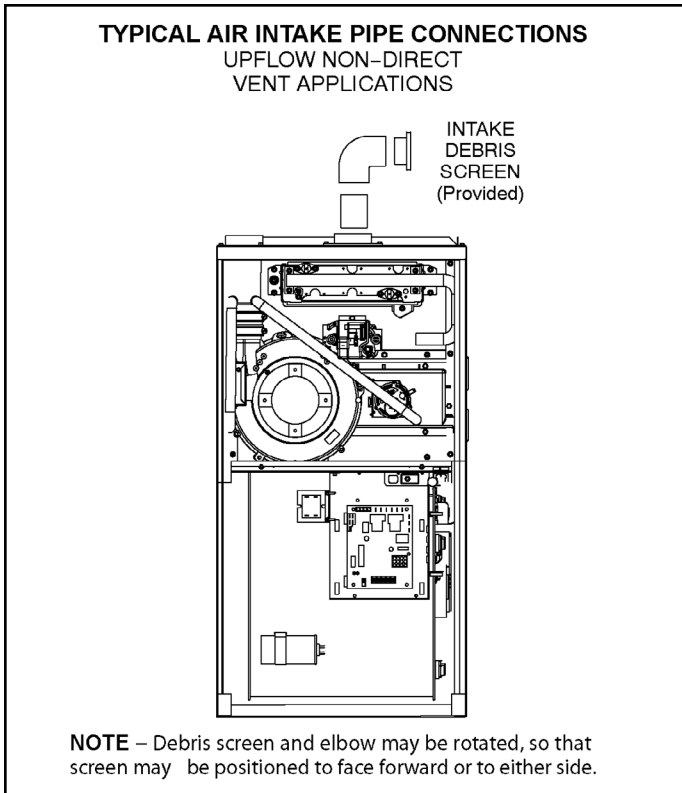
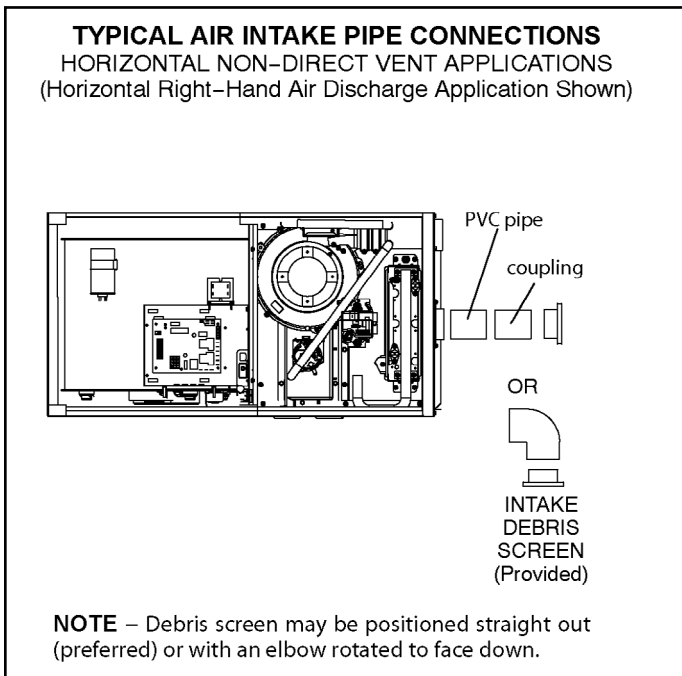

Figure 29.
Figure 30.
1. Use field-provided materials and the factory-provided air intake screen to route the intake piping as shown in Figure 29 or Figure 30. Maintain a minimum clearance of 3" (76 mm) around the air intake opening. The air